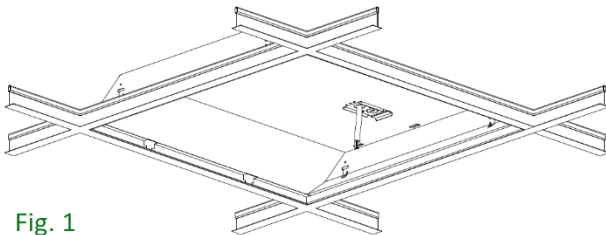

Fig. 1
- Remove the existing fixture frame, clear out inside of existing housing. May need to remove ballast. (Fig. 1)